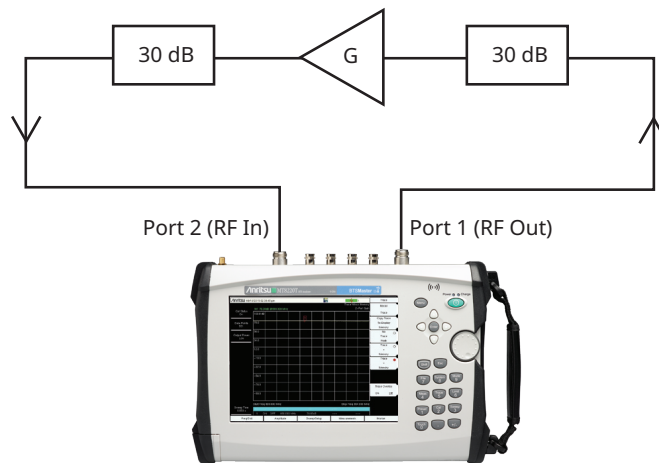

Figure 10: Connection Diagram for Repeater Gain Measurement
- Connect in the repeater as shown in Figure 10